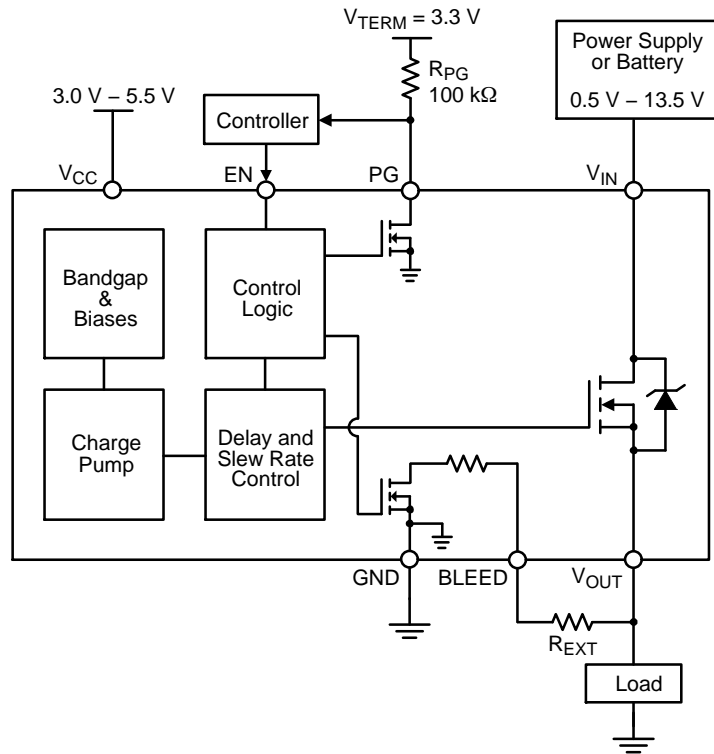
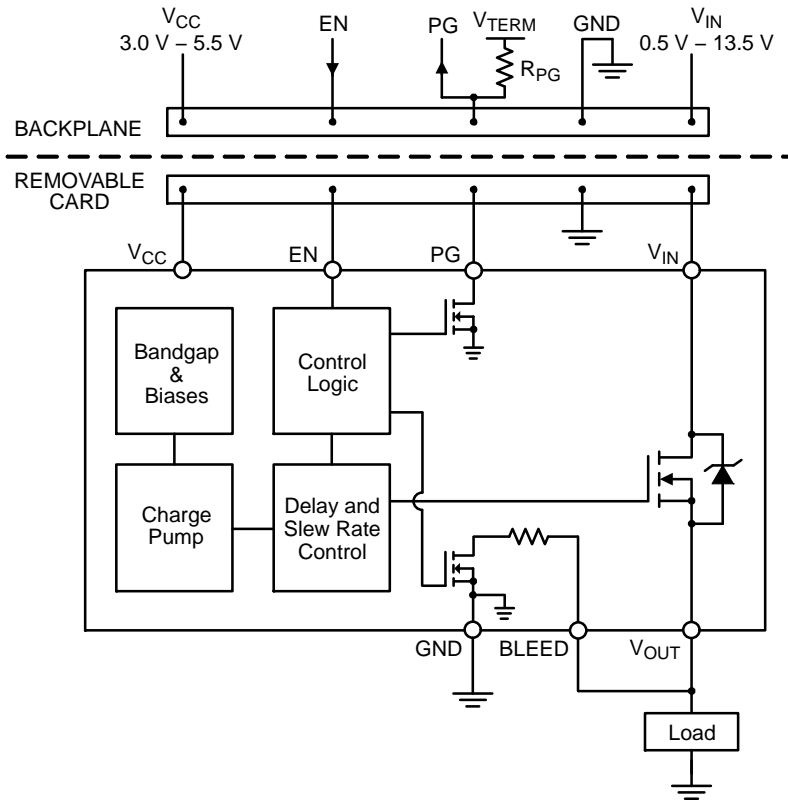

Figure 27. NCP45524 Typical Application Diagram – Load Switch
Figure 28. NCP45524 Typical Application Diagram – Hot Swap
Is it required that the BLEED pin be connected to  $V_{OUT}$  either directly (as shown in Figures 28 and 31) or through an external resistor,  $R_{EXT}$  (as shown in Figures 27 and 30).  $R_{EXT}$  should not exceed 100 M $\Omega$  and can be used to increase the total bleed resistance and decrease the load bleed rate.
The NCP45524 devices have a power good output (PG) that can be used to indicate when the gate of the MOSFET is fully charged. The PG pin is an active-high, open-drain output that requires an external pull up resistor,  $R_{PG}$ , greater than or equal to 1 k $\Omega$  to an external voltage source,  $V_{TERM}$ , that is compatible with input levels of all devices connected to this pin (as shown in Figures 27 and 28).